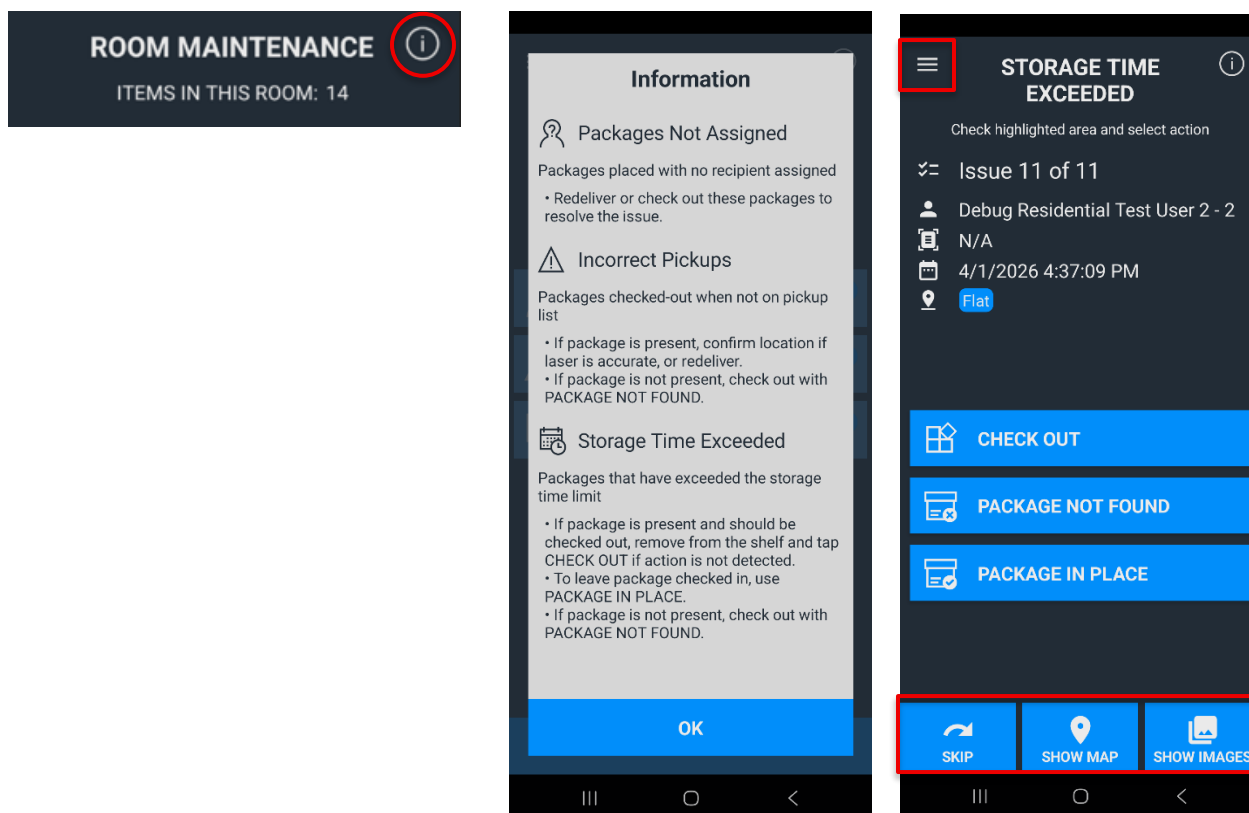

Figure 51: Displays information about the issue types; Three Line button; Other options
Room Maintenance Additional Options (see Figure 51)
- To see information about the issue types and how to resolve them, tap the “i” icon in the top-right. See Figure 51. Click **OK** to close the Information window.
See Figure 51: